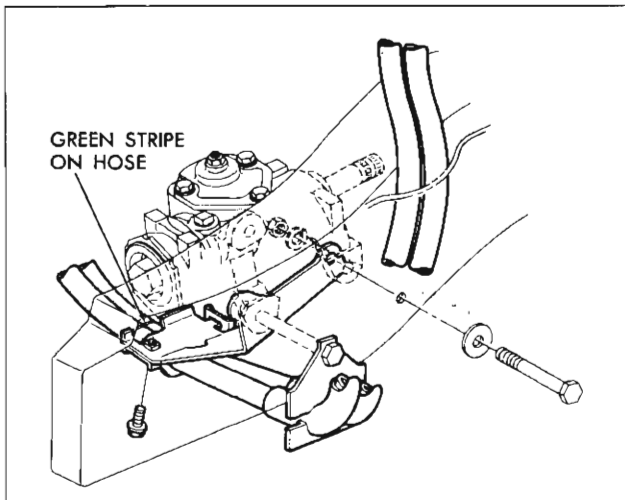

Fig. 49—Power Steering Hose Routing to Hydraulic Pump
3. On pump-to-valve hoses, align green stripe on hose with inboard edge of wide clamp as shown in Figure 49. Tighten clamp.